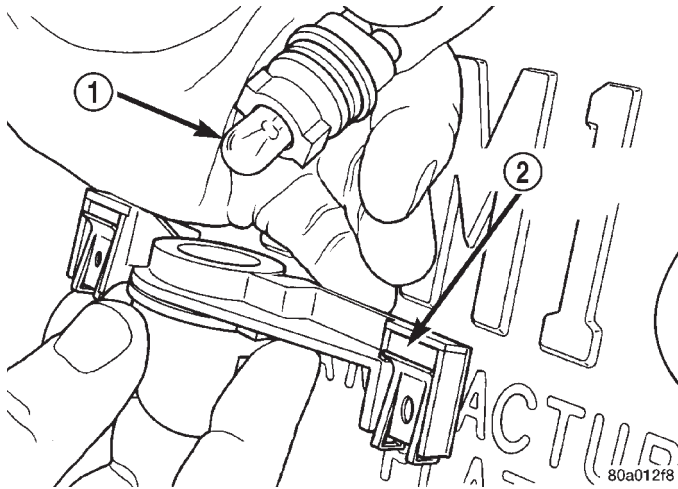

Fig. 19 License Plate Lamp Bulb
(4) Pull bulb from socket (Fig. 19).